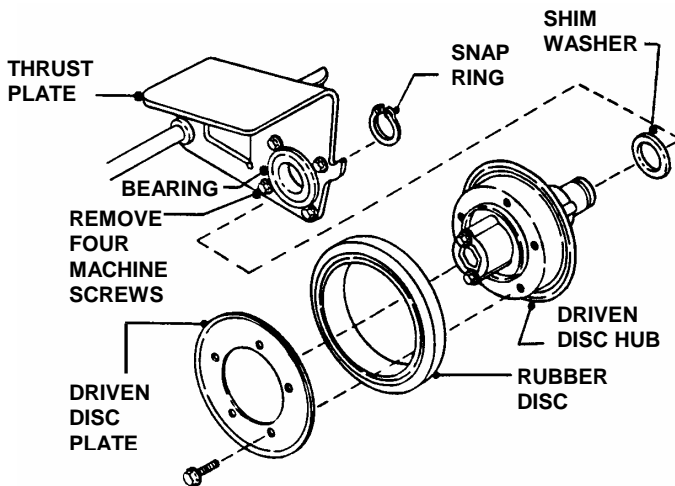

FIGURE 4.15
3. Remove snap ring that secures driven disc hub to thrust plate. See Figure 4.15.